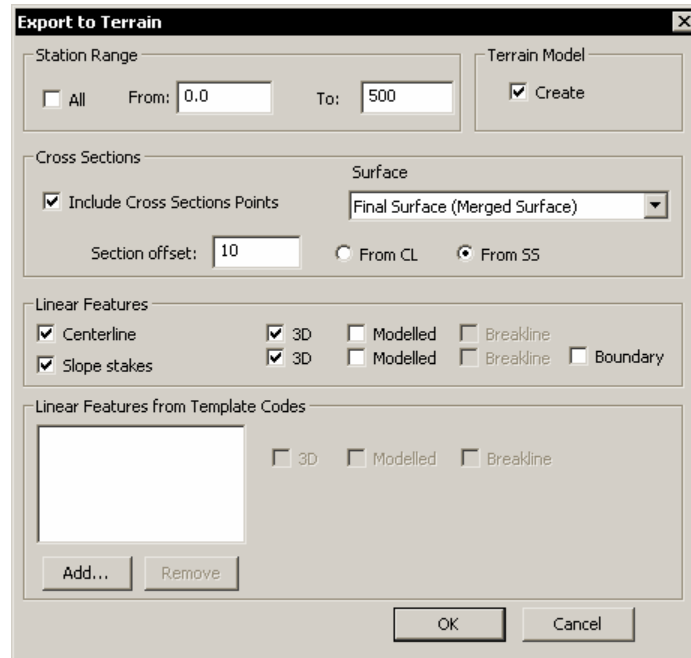

Figure 10.0: Export to Terrain Dialog.
4. Enter the options as shown in Figure 10.0.